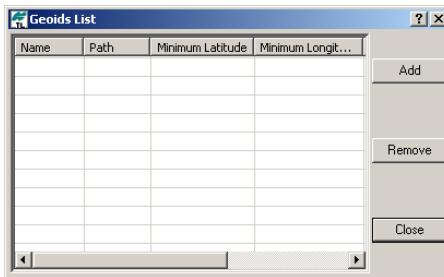

Figure 3-16. Geoids List Dialog Box
2. On the **Geoids List** dialog box, click **Add** (Figure 3-16).